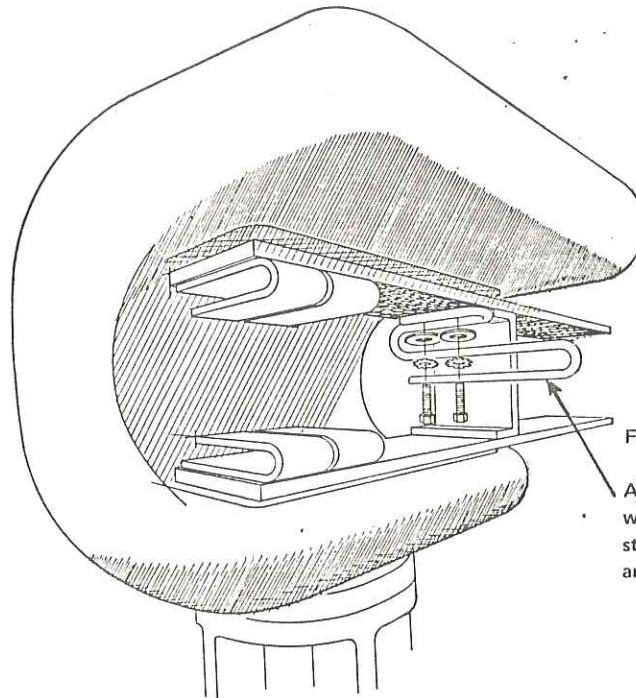

Figure 10
5. The arcing horns should be attached at this time. (Figure 10) The arcing horns should rub together with sufficient pressure to maintain contact throughout their stroke; however, they should not bind or force the blade out of alignment. The jaw horn can be bent as required to achieve proper contact.